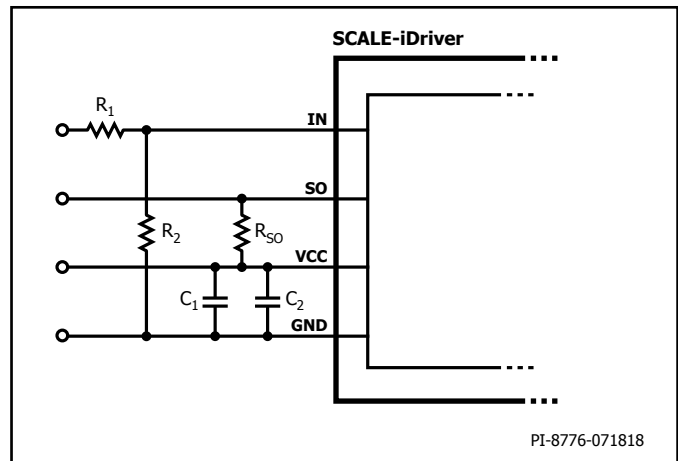
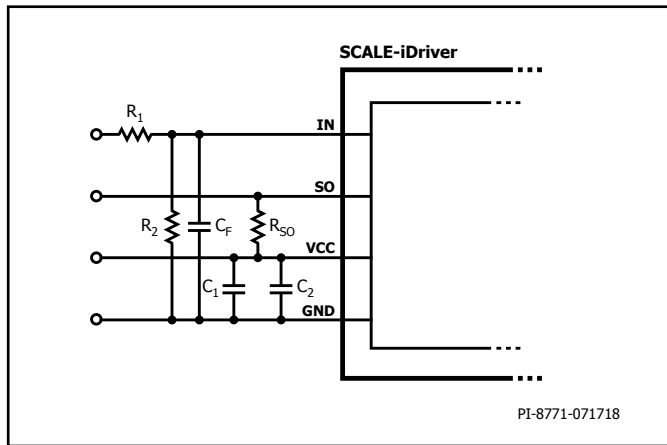

Figure 6. Recommended Circuitry for Increased IN Logic Levels. For  $R_1 = 3.3 \text{ k}\Omega$  and  $R_2 = 1.2 \text{ k}\Omega$  the IN Logic Level is 15 V.
Figure 7. Primary-Side of Example Circuitry.
If the physical distance between the controller and the SCALE-iDriver is large or if a different logic level is required, the resistive divider in Figure 6 is recommended. This solution adjusts the logic level as necessary and will also improve driver's noise immunity.
For the input the circuitry of Figure 6 is recommended, when using 15 V input logic.  $R_1$  and  $R_2$  represent a voltage divider to get a 5 V signal at the IN pin. If additional filtering is required a capacitor  $C_F$  can be placed in parallel to  $R_2$  as depicted in Figure 7. The time constant  $\tau$  can be calculated by Equation (1). In case direct 5 V logic is used at the IN pin,  $R_2$  can be omitted and  $R_1$  can be reduced to 100  $\Omega$ .